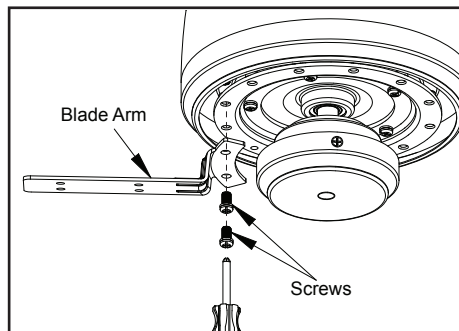

Figure 16
1. Fasten the blade brackets to the fan-motor assembly by inserting the alignment post into the slot on the bottom of the motor, then securing the blade brackets using the blade arm screws. (Figure 16)